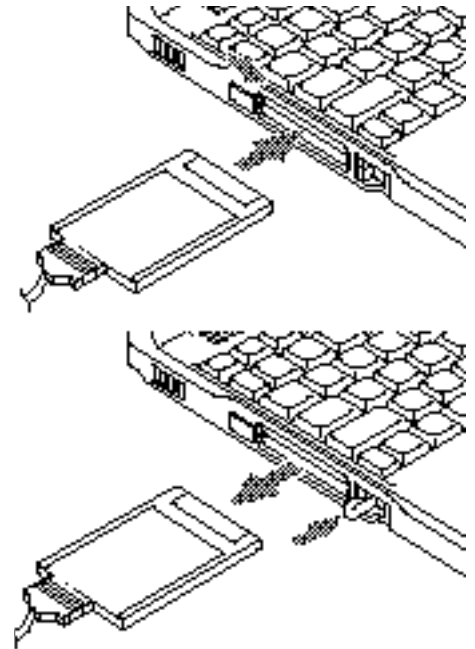

Figure 4-9 Installing and Removing a PC Card
3. Insert the PC Card in the card slot, with the product name label facing up. (Figure 4-9.)
6. When the card is installed, lock it in place by sliding the lock button to the right. (Figure 4-9.)